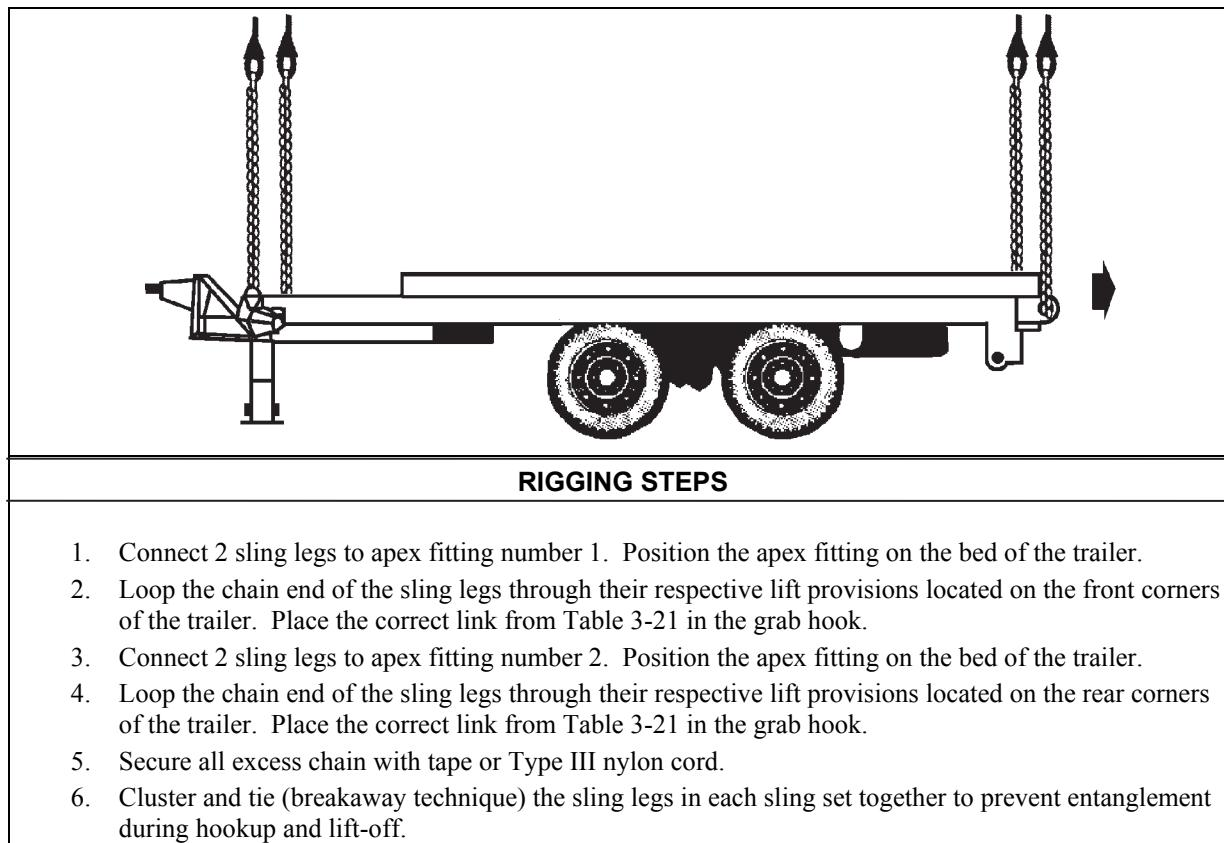

Figure 3-21. Standard Automotive Tools Set Trailer
- **Rigging.** Rig the load according to the steps in Figure 3-21.